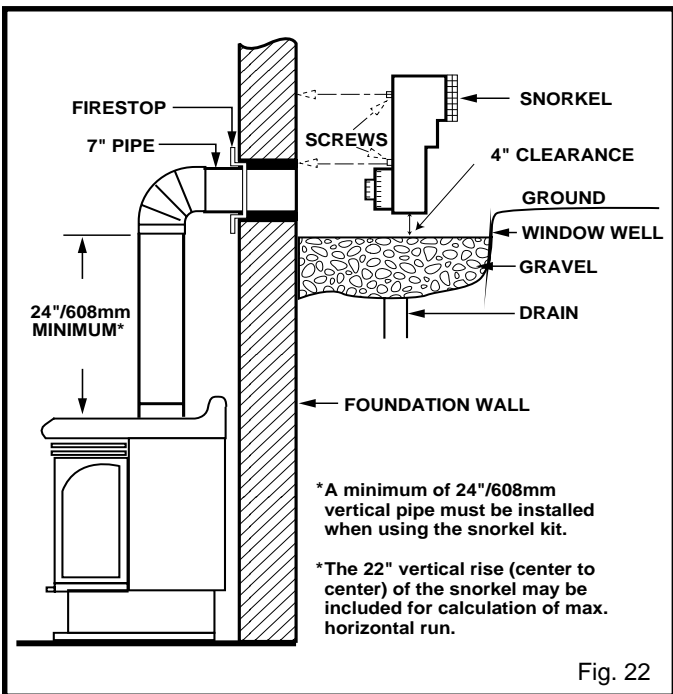

Fig. 22
2. Remove soil to a depth of approximately 16" below base of snorkel. Install drain pipe. Install window well (not supplied). Refill hole with 12" of coarse gravel leaving a clearance of approximately 4" below snorkel. See Fig. 22.
7. Level the soil so as to maintain a 4" clearance below snorkel. See Fig. 22.
If the foundation is recessed, use recess brackets (not supplied) for securing lower portion of the snorkel. Fasten brackets to wall first and then secure to snorkel with self drilling #8 x 1/2 sheet metal screws. It will be necessary to extend the vent pipes out as far as the protruding wall face (Fig. 22).